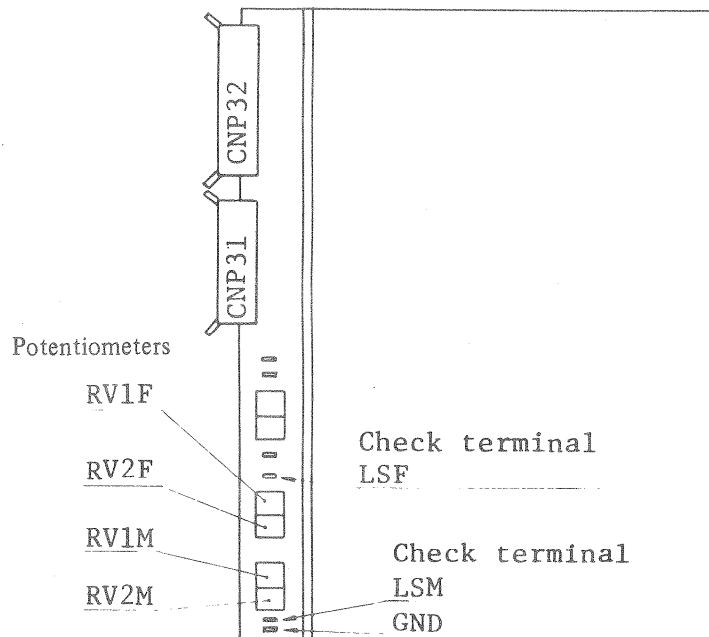

Figure 5.6 PCA 1A04 located in the MTU logic gate assembly
- (5) Measure the voltage between LSF (Figure 5.6) and ground. Adjust potentiometer RV1F so that the voltage is  $0 \pm 0.2$  vdc.